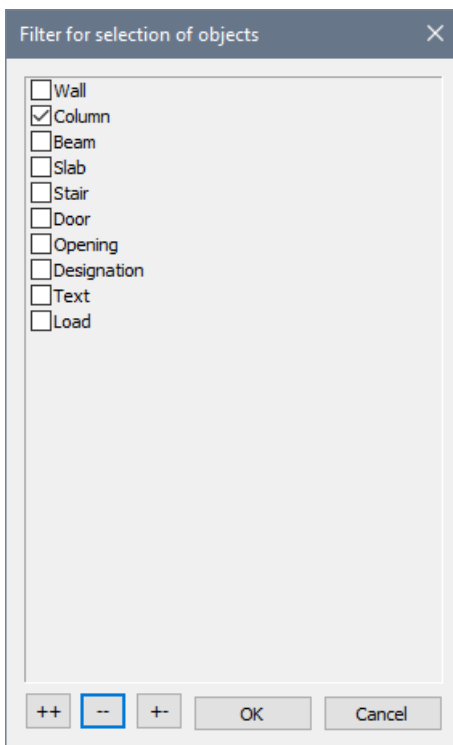

Figure 27.13. Filter for selection of objects dialog box
- ⇒ In the **Filter for selection of objects** dialog box (see Fig. 27.13), do the following: